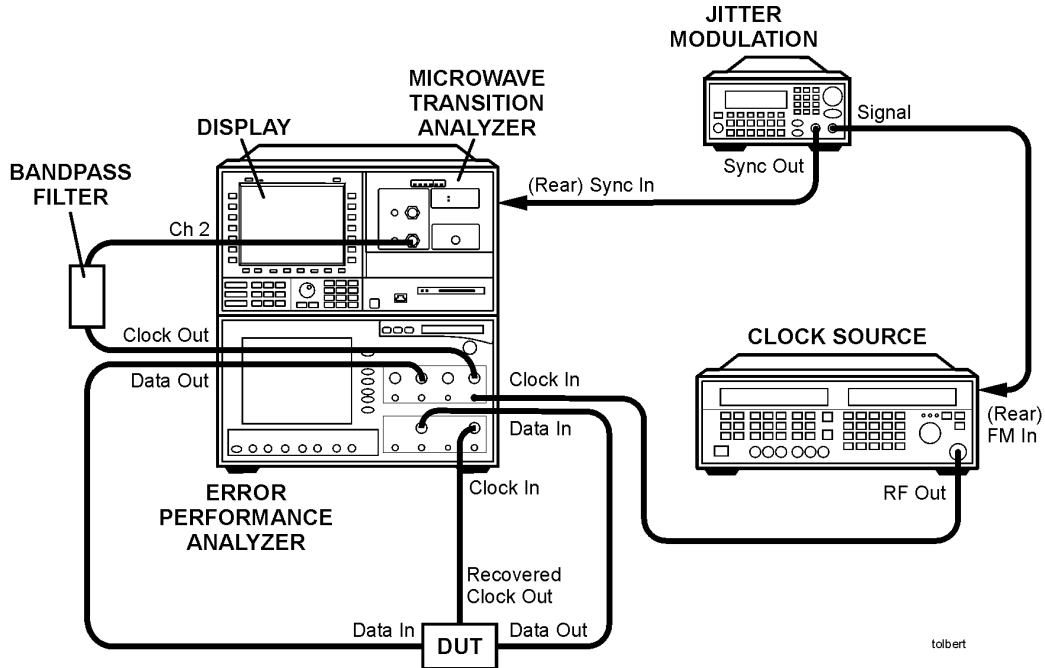

Figure 3-9. Jitter Tolerance Connections with Stand-Alone¹ Error Performance Analyzer and Stand-Alone² Clock Source
- For stand-alone error performance analyzers (70843A/B/C and 86130A), refer to Figure 3-9 on page 3-32.